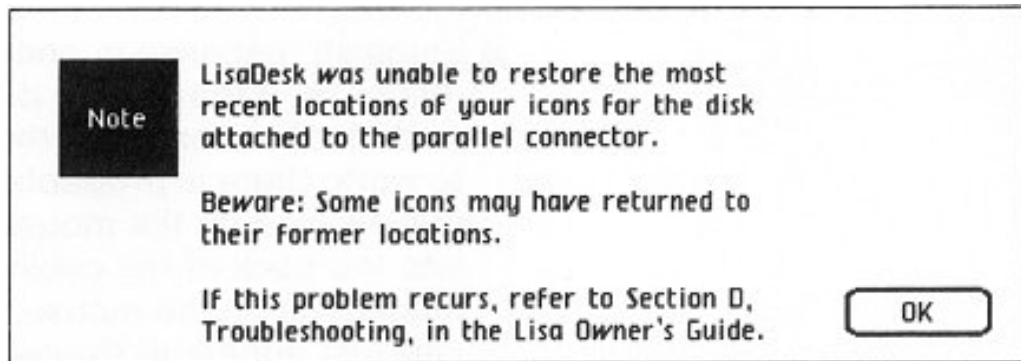

Figure 1. Disk Repair Message
1. If you see a message something like Figure 1, you probably do not have a hardware problem.